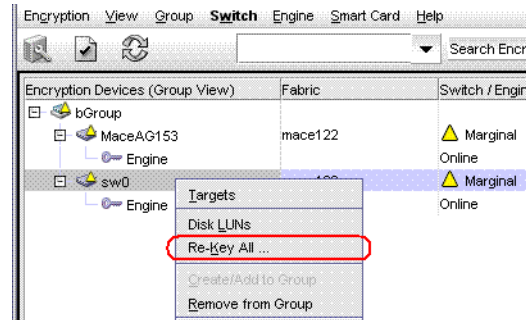

FIGURE 333 Selecting the Re-Key All operation
2. Select the switch on which to perform a manual re-key from the **Encryption Center Devices** table, then select **Switch > Re-Key All** from the menu task bar. (Refer to Figure 333.)